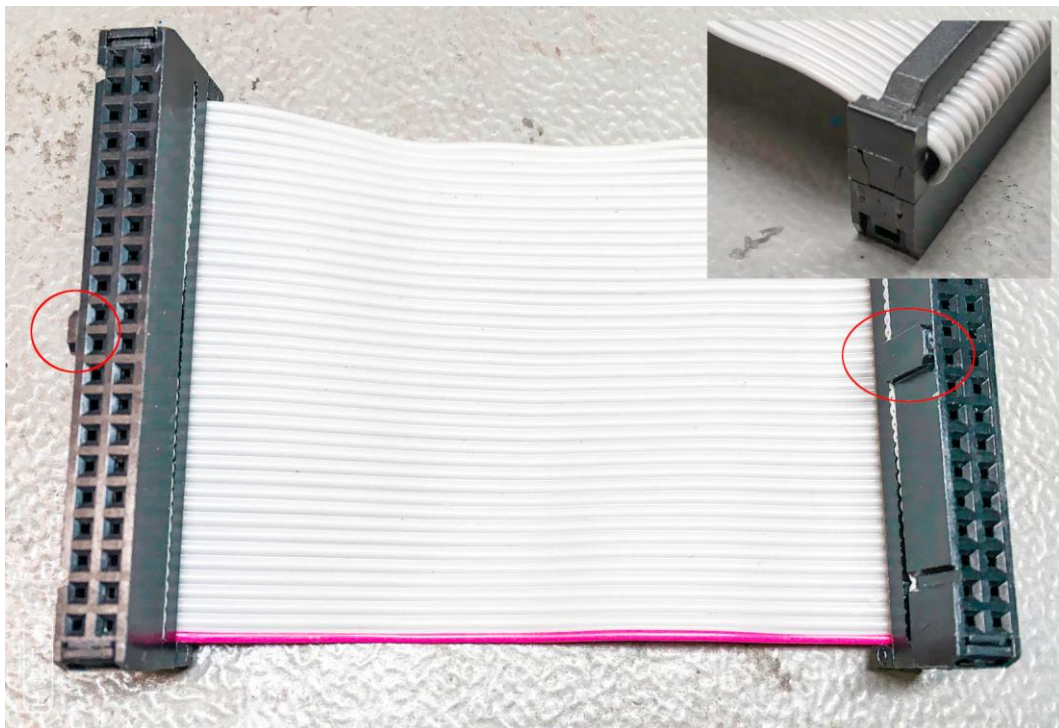

Figure 11: Ribbon cable
- Insert the cable into the IDC receptacle, be aware of the orientation (Figure 11, rec circles)
- bend the ribbon cable over the top of the connector and install the strain relief (Figure 11, top right).